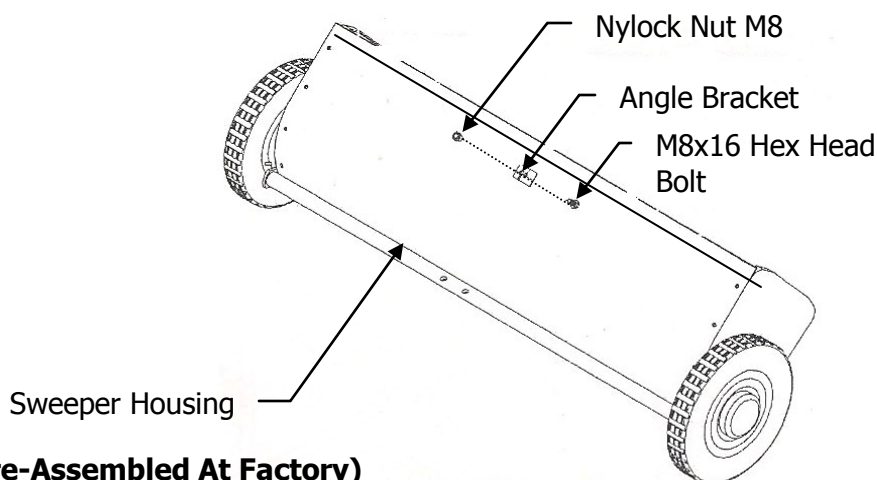

Figure 1 (Pre-Assembled At Factory)
1. (Pre-Assembled at Factory) Assemble the Angle Bracket to the Sweeper Housing using a M8x16 Hex Head Bolt and a M8 Nylock Nut. Make sure the Angle Bracket is turned as shown and aligned straight with the housing and tighten. See Figure 1.